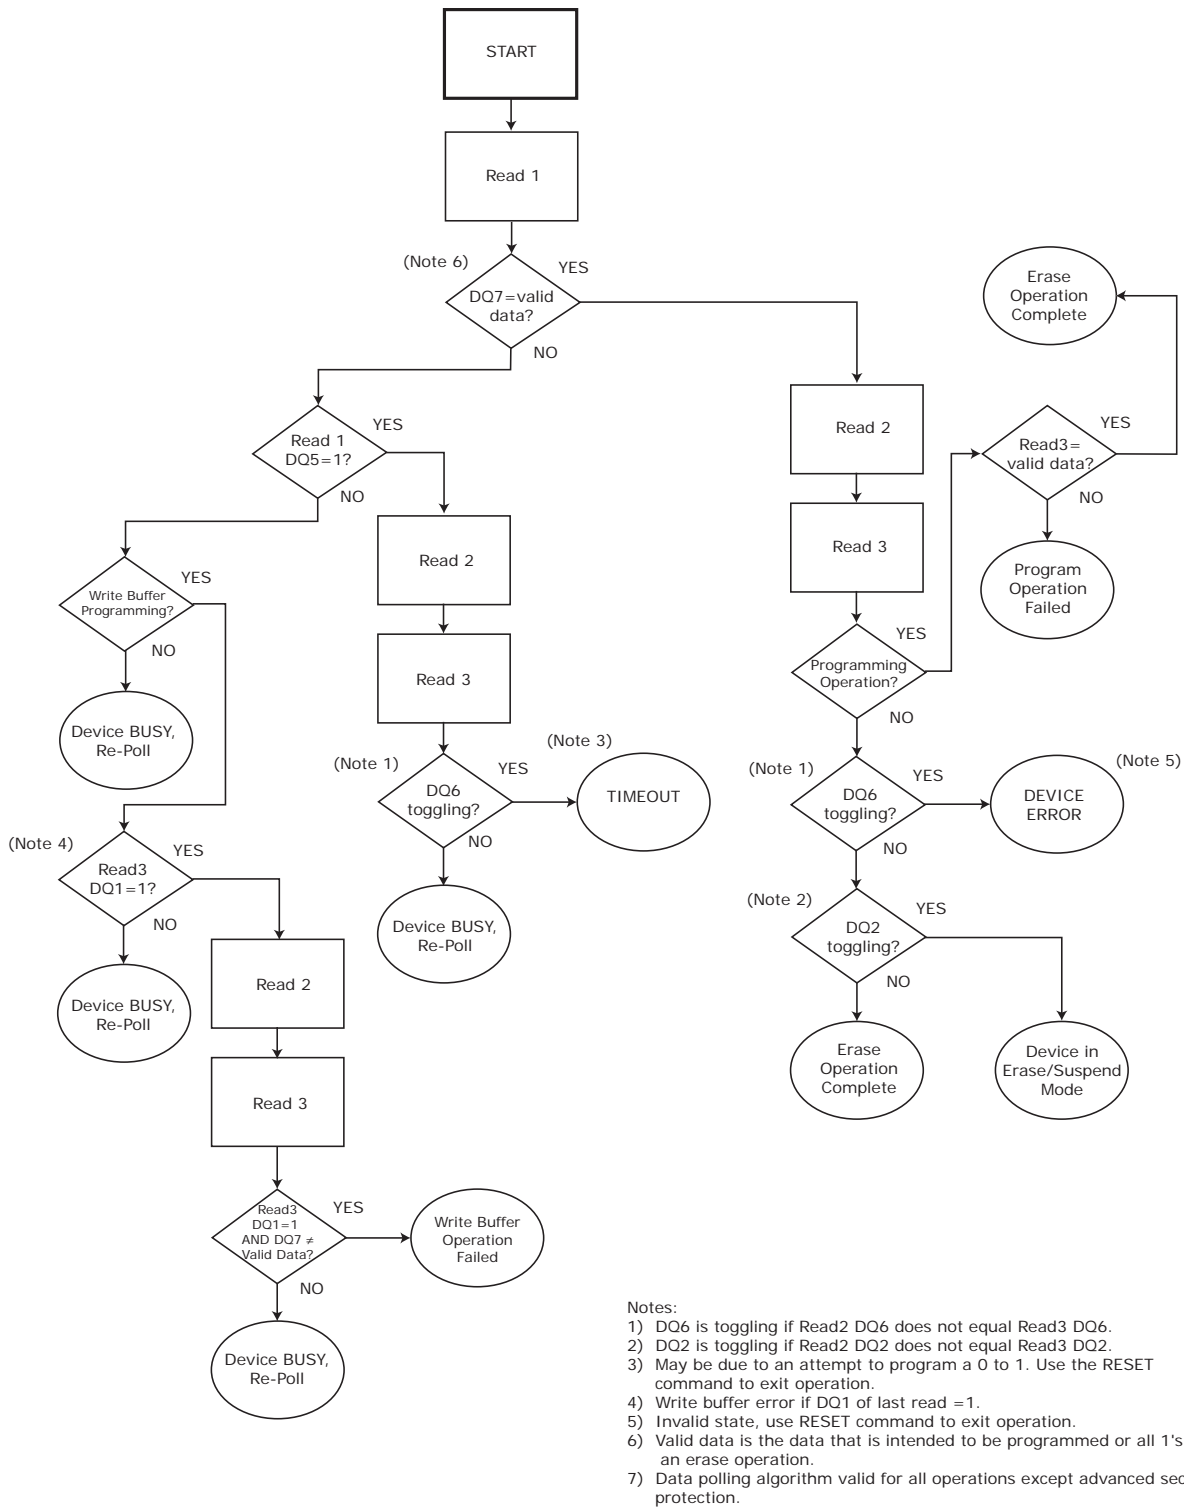

Figure 7.6. Write Operation Status Flowchart
See the following for more information: Table 7.24, Write Operation Status, shows the outputs for Data# Polling on DQ7. Figure 7.6, Write Operation Status Flowchart, shows the Data# Polling algorithm; and Figure 11.17, Data# Polling Timings \(During Embedded Algorithm\), shows the Data# Polling timing diagram.
See the following for additional information: Figure 7.6, Write Operation Status Flowchart; Figure 11.18, Toggle Bit Timings \(During Embedded Algorithm\), and Tables 7.23 and 7.24.
**DQ2: Toggle Bit II** . The “Toggle Bit II” on DQ2, when used with DQ6, indicates whether a particular sector is actively erasing (that is, the Embedded Erase algorithm is in progress), or whether that sector is erase-suspended. Toggle Bit II is valid after the rising edge of the final WE# pulse in the command sequence. DQ2 toggles when the system reads at addresses within those sectors that have been selected for erasure. But DQ2 cannot distinguish whether the sector is actively erasing or is erase-suspended. DQ6, by comparison, indicates whether the device is actively erasing, or is in Erase Suspend, but cannot distinguish which sectors are selected for erasure. Thus, both status bits are required for sector and mode information. Refer to Table 7.23 to compare outputs for DQ2 and DQ6. See the following for additional information: Figure 7.6, the “DQ6: Toggle Bit I” section, and Figures 11.17–11.20.
**Reading Toggle Bits DQ6/DQ2.** Whenever the system initially begins reading toggle bit status, it must read DQ7–DQ0 at least twice in a row to determine whether a toggle bit is toggling. Typically, the system would note and store the value of the toggle bit after the first read. After the second read, the system would compare the new value of the toggle bit with the first. If the toggle bit is not toggling, the device has completed the program or erases operation. The system can read array data on DQ7–DQ0 on the following read cycle. However, if after the initial two read cycles, the system determines that the toggle bit is still toggling, the system also should note whether the value of DQ5 is high (see the section on DQ5). If it is, the system should then determine again whether the toggle bit is toggling, since the toggle bit may have stopped toggling just as DQ5 went high. If the toggle bit is no longer toggling, the device has successfully completed the program or erases operation. If it is still toggling, the device did not complete the operation successfully, and the system must write the reset command to return to reading array data. The remaining scenario is that the system initially determines that the toggle bit is toggling and DQ5 has not gone high. The system may continue to monitor the toggle bit and DQ5 through successive read cycles, determining the status as described in the previous paragraph. Alternatively, it may choose to perform other system tasks. In this case, the system must start at the beginning of the algorithm when it returns to determine the status of the operation. Refer to Figure 7.6 for more details.